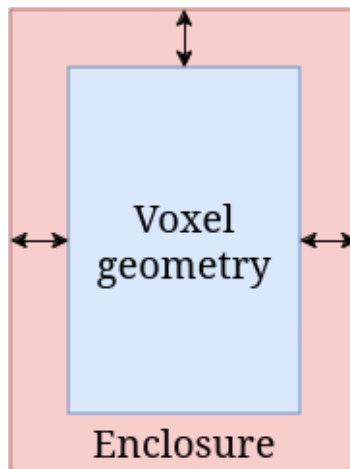

Figure 13: Voxelized geometry enclosure schema
- **enclosure-margin**: This parameter defines the margin, in cm, of a homogeneous enclosure containing the voxelized geometry (Figure 13). It is intended to take into account border effects, such as backscatter.